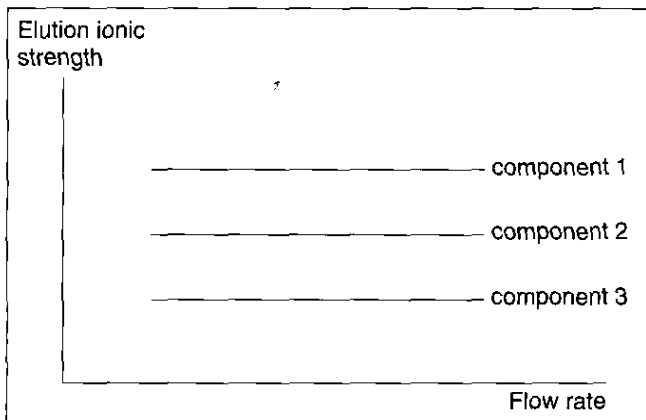

Fig. 1.
1. Best separating pH and buffer system for the sample can be determined by scouting on a Mono Q HR 5/5 column. High flow rates (up to 2 ml/min) and small gradient volumes (20 ml) may be used to save time. The elution ionic strength for each separated component is independent of the flow rate (Fig. 1).